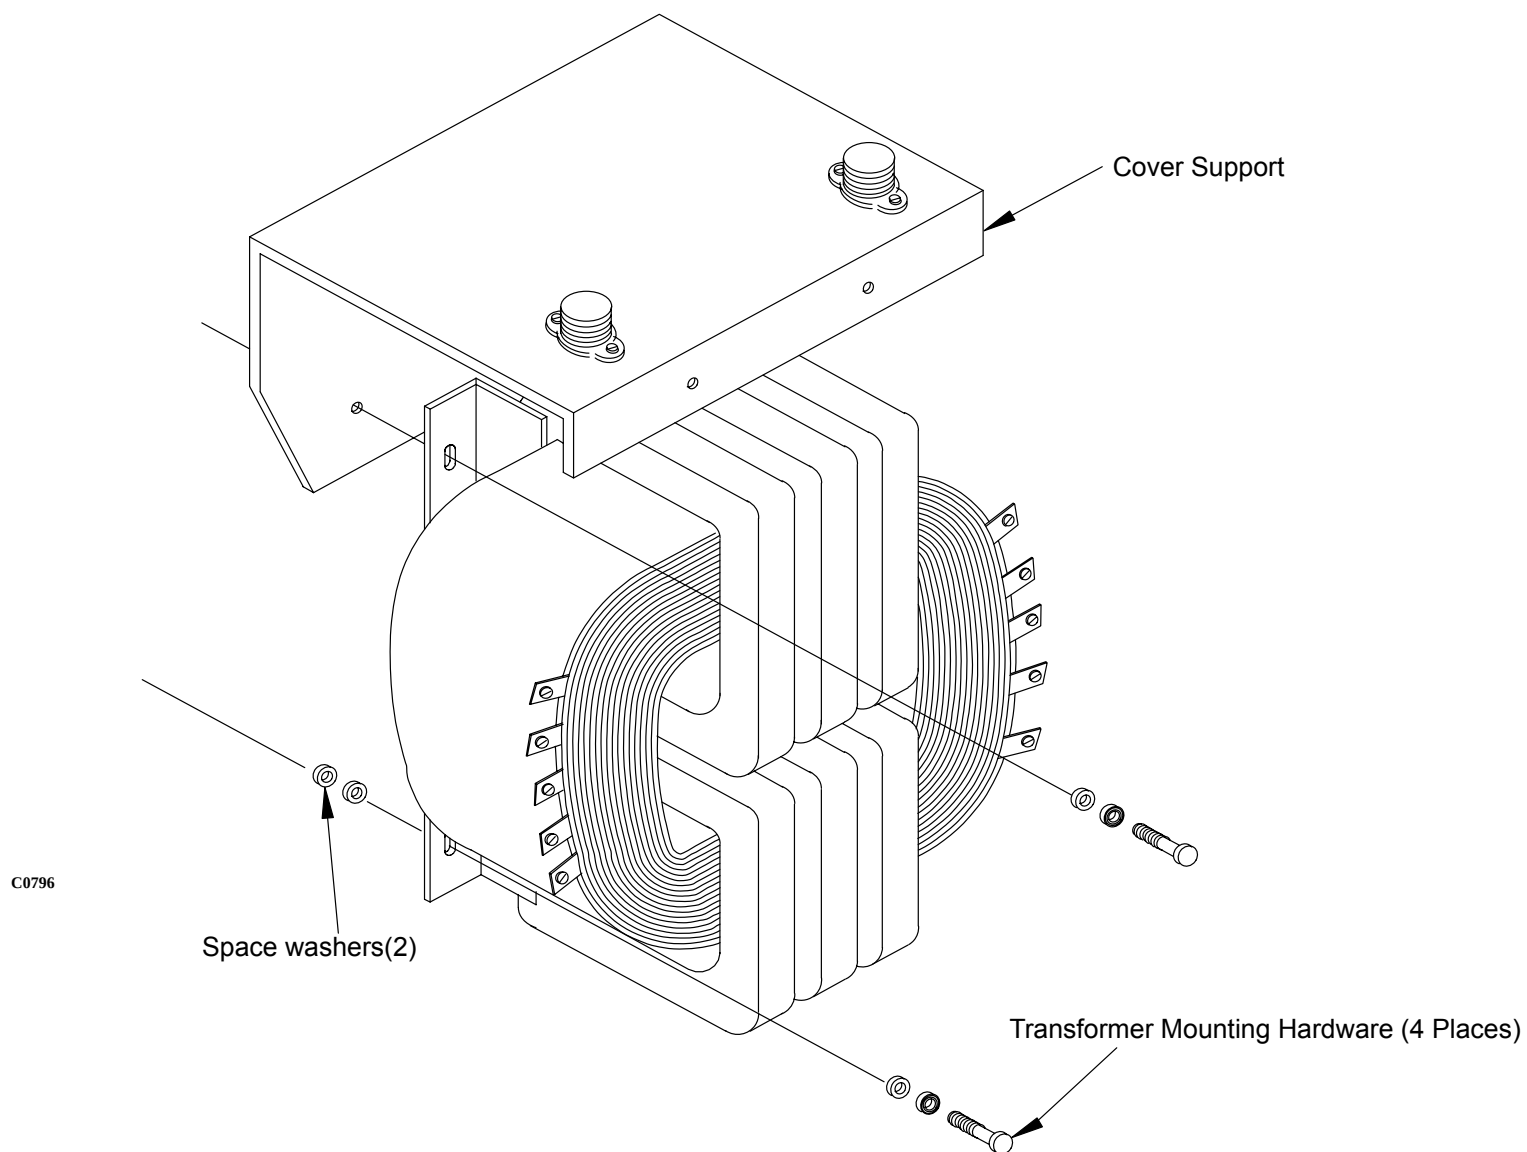

FIGURE 321 1.1 KVA Transformer Mounting Screws
5. Support the Transformer weight and remove the four Transformer Mounting bolts with the hex head key. Carefully remove the Transformer, Cover Support, and Spacer Washers. See Figure 321.